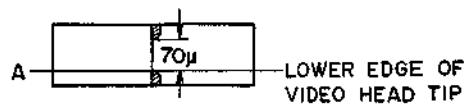

Fig. 4-4
- 3) Adjust the head height adjustment screw until the height of the R channel video head (to which red leads are connected) is 250μ as shown in Fig. 4-4. The video head is shown in Fig. 4-4. Be sure to align A with the 250μ level.